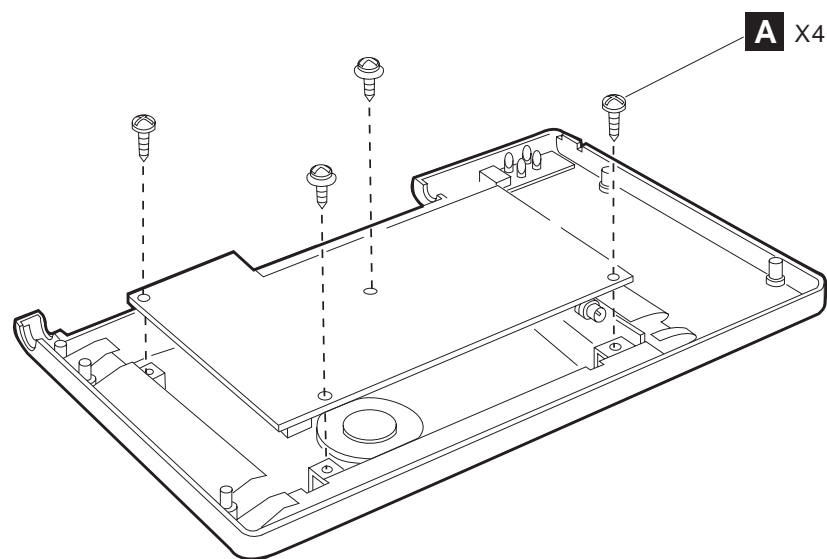

Figure 63. Removing the screws
6. Remove the four screws (**A** in Figure 63).